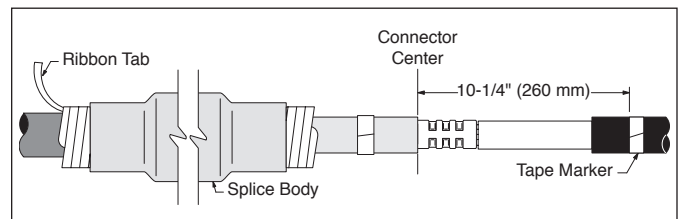

Figure 12
- 5.3 Place a tape marker 10-1/4" (260 mm) from connector center line on the cable opposite the splice body ribbon tab (Figure 12).